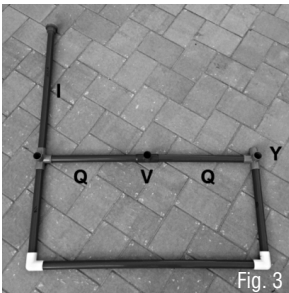

Fig. 3
3. Assemble the top cross support of the table (Fig. 3).